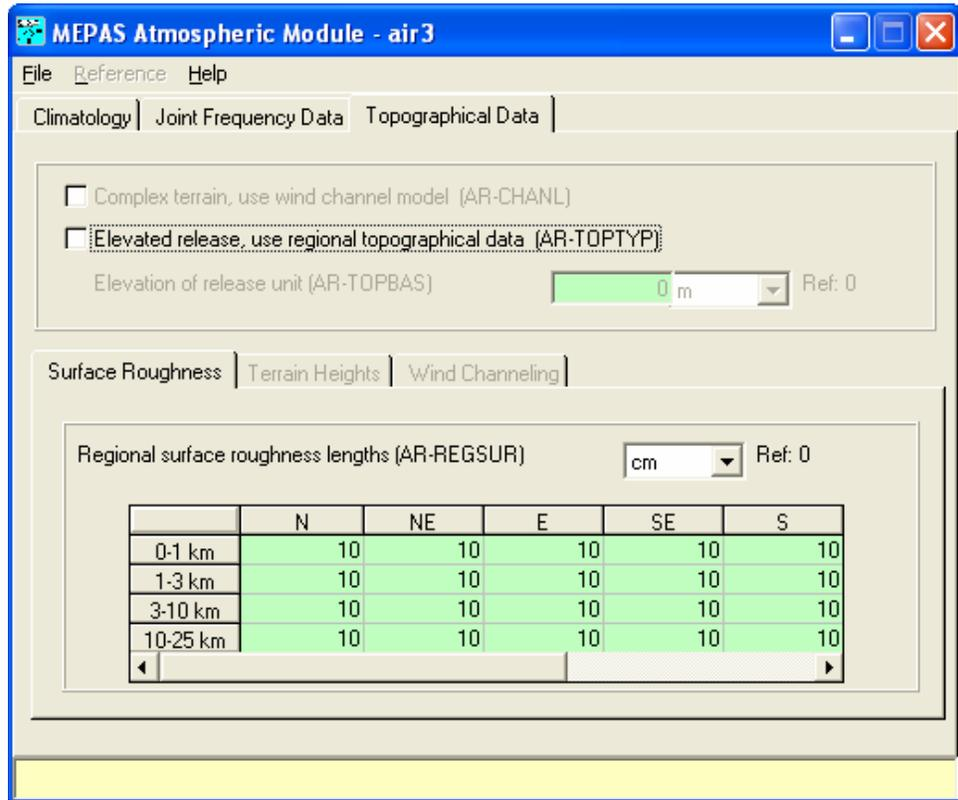

Figure 27. MEPAS Atmospheric Module – Topographical Data tab
- The last tab is labeled “Topographical Data” and is used to enter information for elevated releases or information about the topography of the site if the terrain will be assumed to influence the atmospheric movements. For this example, the default values will be used as shown in Figure 27 so no further input is required. Select “Save and Exit” from the File menu to return to the FRAMES work space. The status light next to the Air icon should turn yellow.